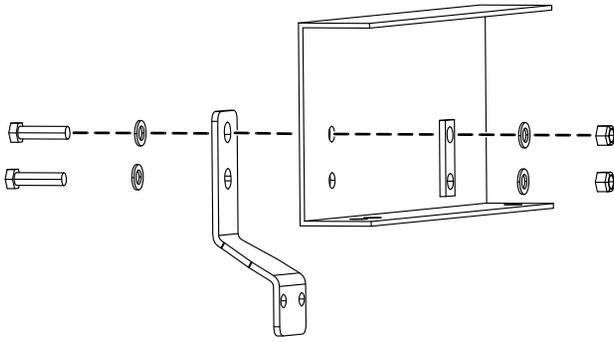

Figure 1
- Install the 2 side straps and spacers to the vehicle frame using 4 bolts (1/2 x 2 inches), 8 washers (1/2 inch), and 4 nuts (1/2 inch) as shown in Figure 1.